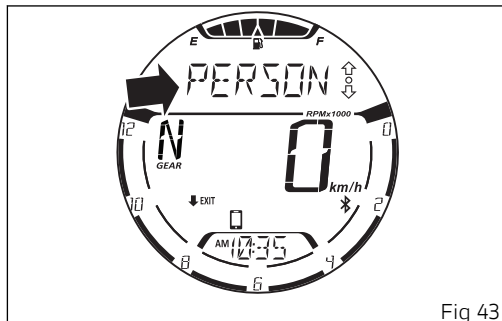

Fig 43
To display the list of calls, press button (4). When accessing this function, the display will show the name or number of the last call (Fig 43).